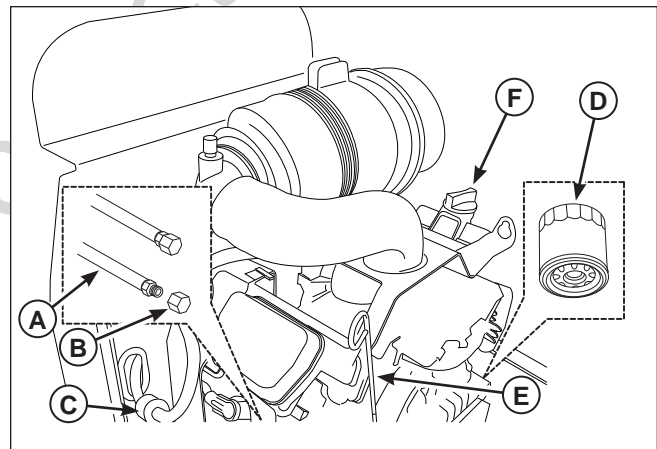

Figure 18. Engine Oil Drain
3. Using pliers, open and slide the hose clamps from the fuel filter (**C, Figure 18**).
2. Locate the oil drain hose (**A, Figure 18**) on the left side of the engine and route the oil drain hose down through the frame towards the ground.